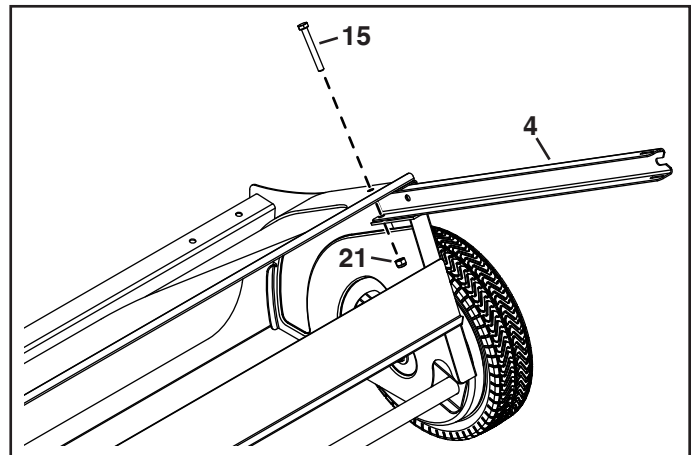

FIGURE 1
1. Slide the bag arm channels (4) into the sweeper housing as shown in figure 1. Secure them to the sweeper housing with a 5/16-18 x 2-1/2" hex bolt (15) and 5/16" nylock nut (21). Tighten bolt until secure. **Do not over tighten.**